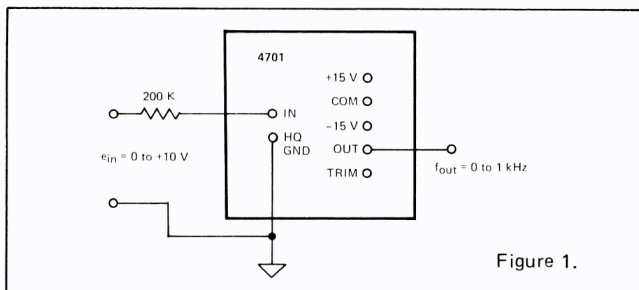

Figure 1.
1. The easiest way to get a 1 kHz full-scale output from a 4701 is to put a resistor of approximately 200k Ω in series with the input (see Figure 1). The linearity in this configuration will probably not be degraded. The temperature coefficient of full scale, however, will be degraded by the temperature coefficient of the resistor you add. For example, if you add a 200k Ω metal film resistor with a TC of 100 ppm/ $^{\circ}$ C maximum, then the TC of full scale of the 4701 will degrade from 100 ppm/ $^{\circ}$ C to 200 ppm/ $^{\circ}$ C. In addition, the temperature coefficient of zero offset will be degraded because of the high value of the input resistor, i.e., the 200k Ω input resistor will degrade the zero offset drift to 0.4 mV/ $^{\circ}$ C or 40 ppm/ $^{\circ}$ C of full scale. However, in many applications this performance will be quite acceptable.